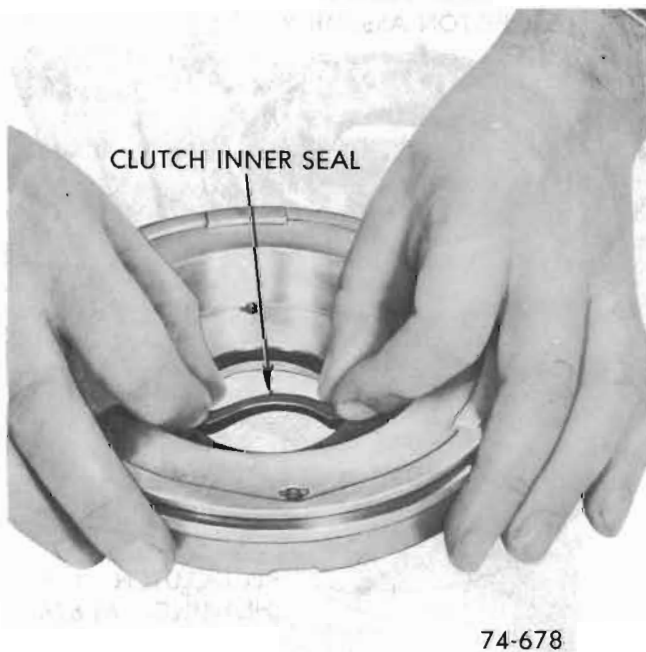

Figure 76-203
9. Remove inner seal from piston. See Figure 76-203.
1. Install a new inner clutch piston seal on piston with lip facing away from spring pockets. Make certain correct piston is used. See Figure 76-203.